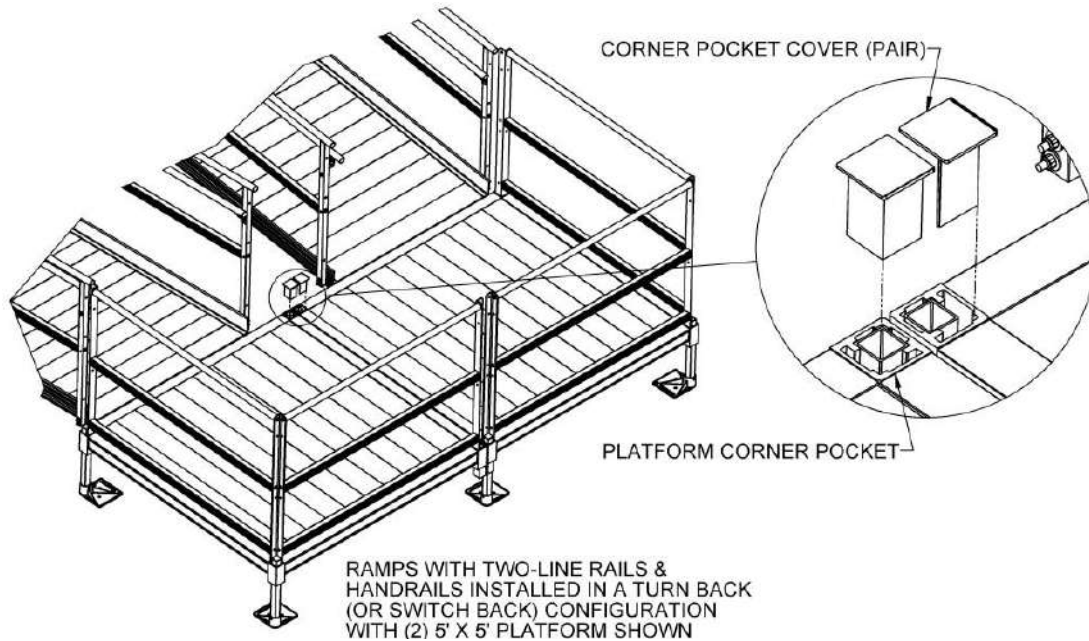

FIG. 5.20
5.6.1.1. Make sure the 1-1/2" support legs and platform connector stub tubes are flush or slightly below the tops of the platform corner pockets, and then drop the angles on the underside of the corner pocket covers into the pockets where the post would normally be installed (FIG. 5.20).